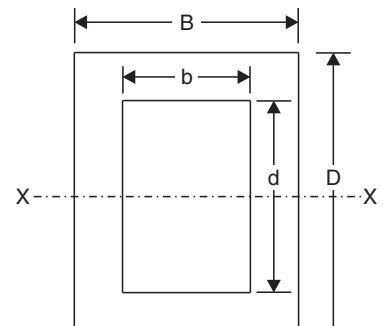

Fig. 8.10
**2. Rectangular lamina with a centrally situated rectangular hole.** Refer to Fig. 8.10. Let in a rectangular lamina  $B \times D$ , a rectangular hole  $b \times d$  be made centrally.